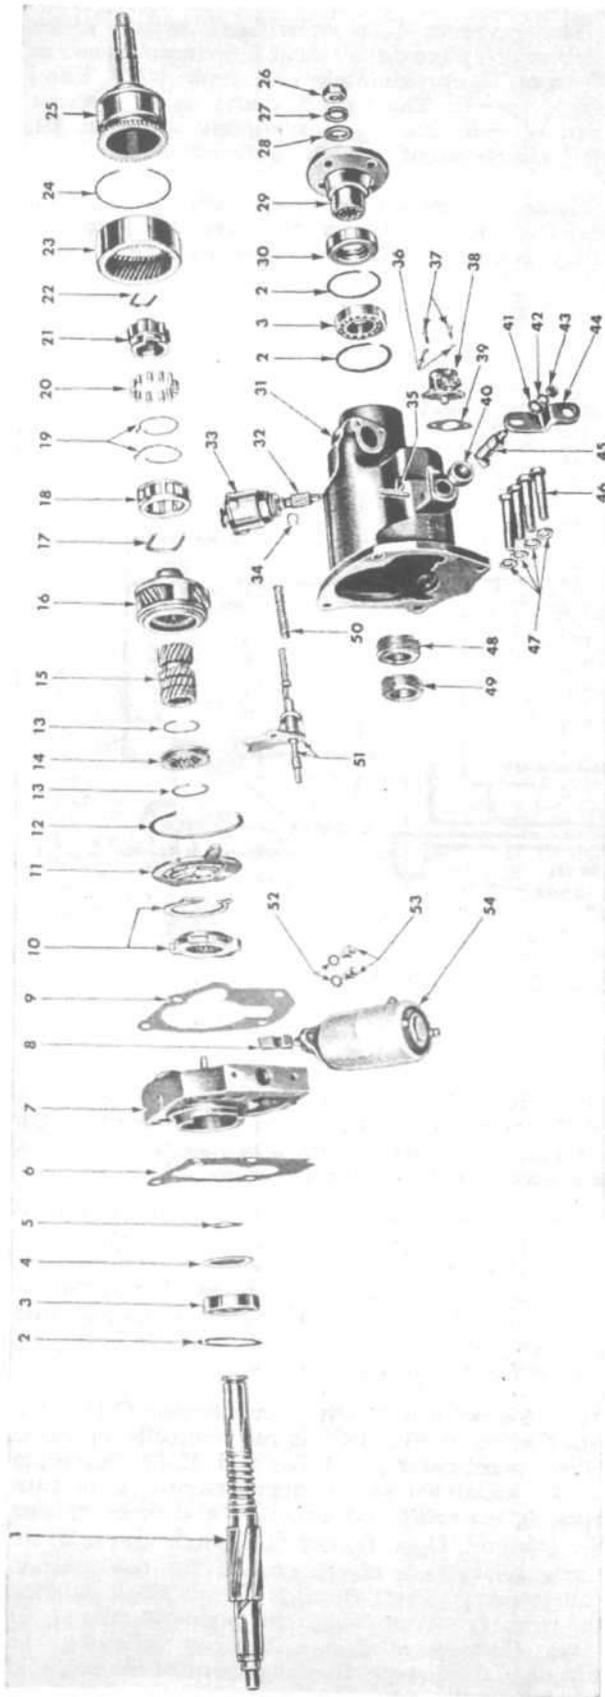

FIG. 199—TRANSMISSION OVERDRIVE—EXPLODED VIEW
- b. Remove two cap screws holding solenoid (Fig. 199, No. 53) to left side of overdrive housing adapter (7). Turn solenoid a quarter turn to right and pull out to disengage solenoid plunger from sun gear pawl. Remove solenoid.
- c. Remove two cap screws holding overdrive rail switch (38) and remove switch and gasket. See Par. K-16.